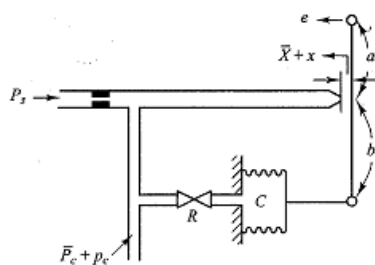

Fig.Q.3C
- 3C.** Fig.Q.3C shows a pneumatic controller. Identify the controller and explain its action. 2